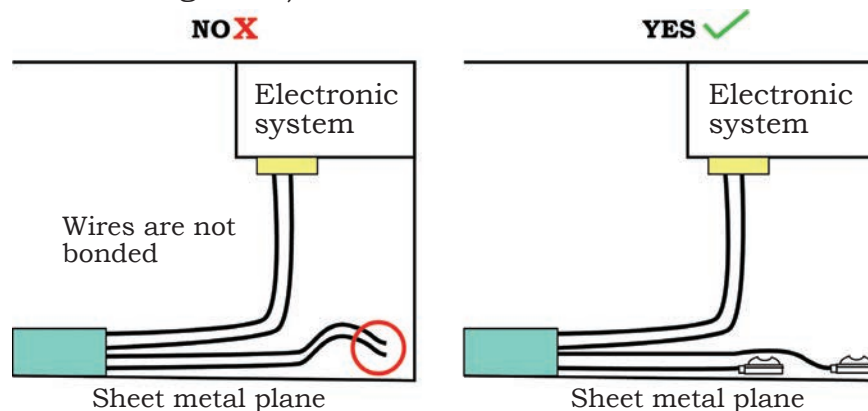

Fig. 8.15 Metal sheet
3. Use the least number of cables or wire ties while wiring, except if it is a temporary one (as shown in Fig. 8.15).